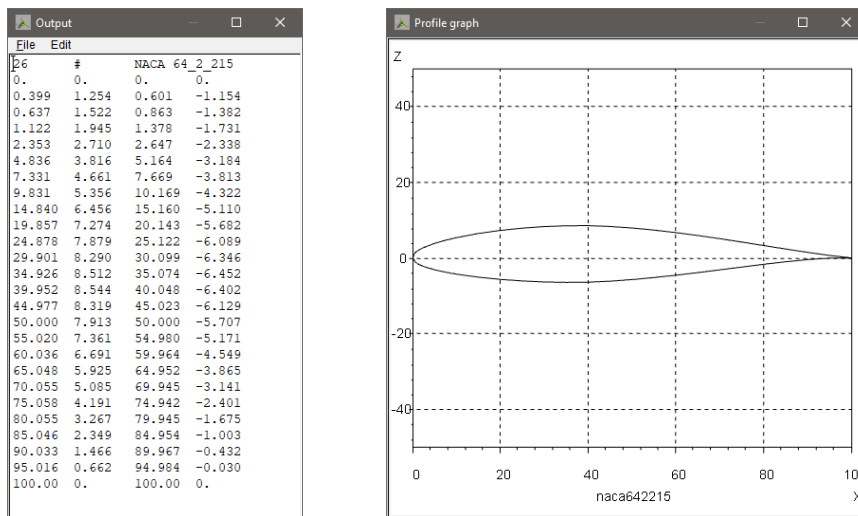

Fig. 10 - Browsing the profile library
- Profiles library – browsing the profile library (Fig. 10)